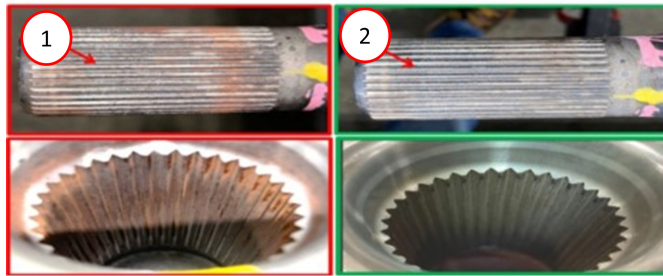

Fig. 2
- Using brake cleaner and a wire brush, clean both the interface of the shaft splines and hub splines to remove any of the “fretting/corrosion” seen on those splines Fig. 2.